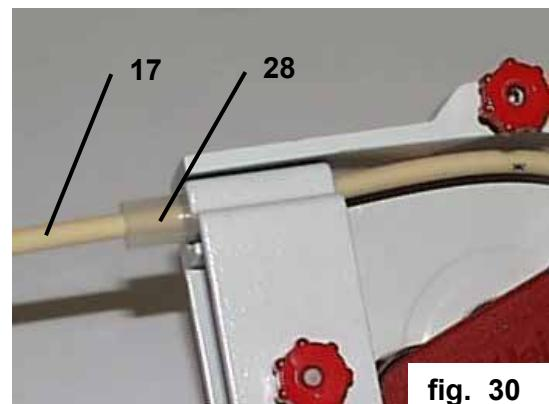

fig. 30
3.7. Use of small inner diameter hose (size 0.8 and 1.7 mm) (fig. 30).
- To this end slip these short hoses (28) over your pump hose (17) and install hose (17) with short hoses (28) in pump head so that these short hoses are located under the clamp. To go ahead from this point, refer to "install hose" Chapter.